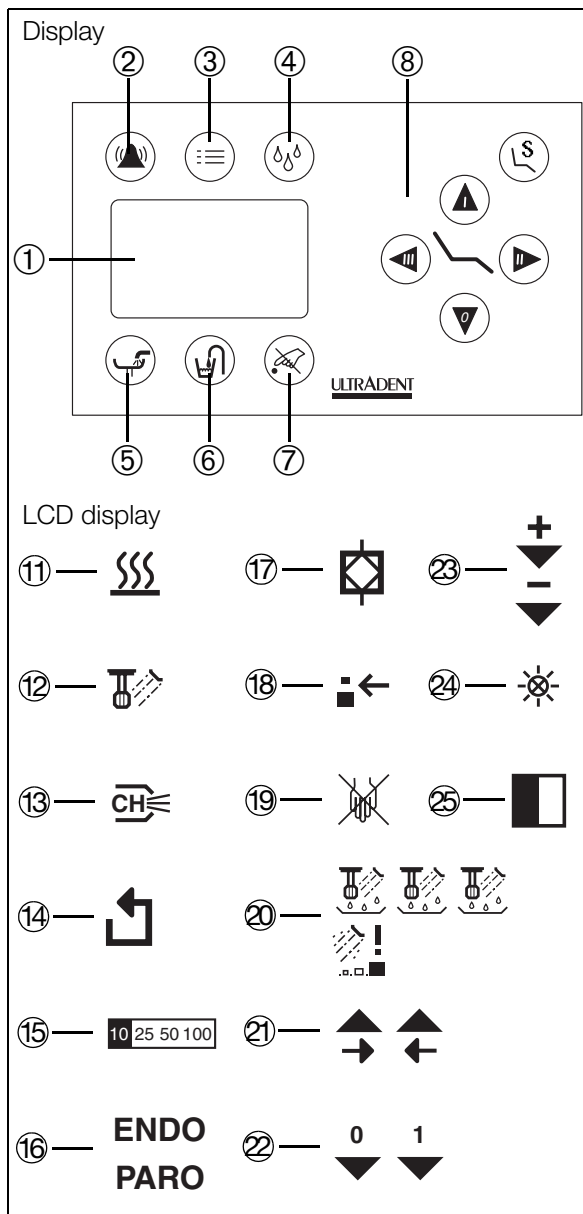

Fig. 63
To change the intensity of the light, remove the tartar removal hose from its holder and press the menu key ③ (Fig. 63). The sub-menu then appears.
- Keep tapping on the right-arrow ②① (Fig. 63) touch key until the symbol ②④ (Fig. 63) appears.
- By tapping on the touch-keys marked with the symbols ②③ (Fig. 63), the intensity can be changed incrementally.
- Once the required intensity has been set, you return to the main menu by tapping on the ③ (Fig. 63) key.